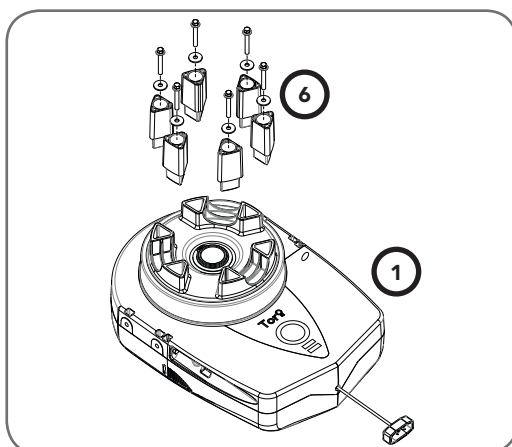

Fig 5.3
Attach and secure all six (6) forks (6) to the drive unit (1) with screws supplied (**Fig. 5.3**). All the six (6) forks must be used and properly engaged into the drum of the door for the opener to work effectively.